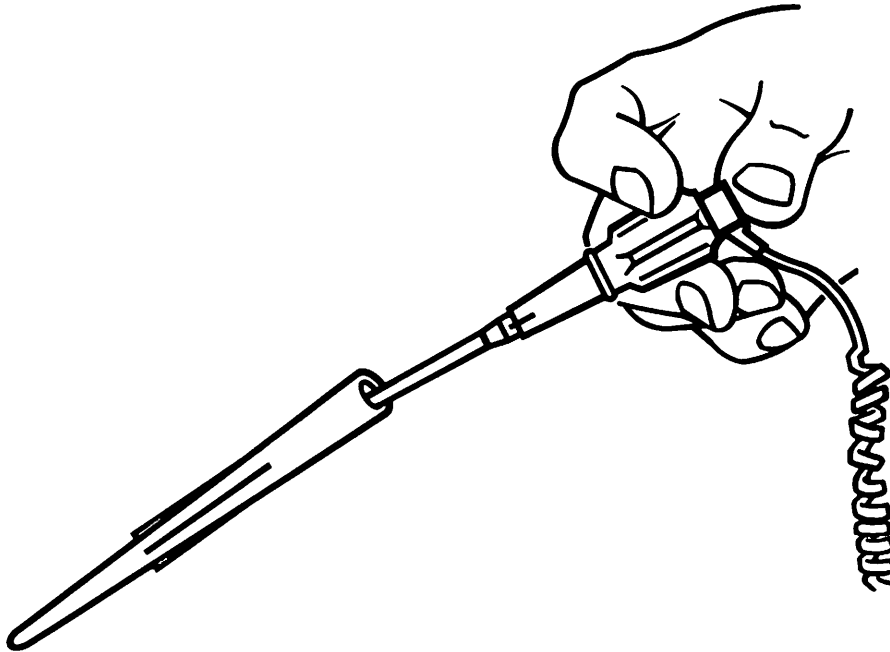

Figure 2-6. Ejecting Probe Cover
- i. Note the displayed temperature and remove the probe from the patient's mouth. Hold the probe as you would a syringe and press the ejection button at the base of the probe to eject the used probe cover (see figure 2-6).